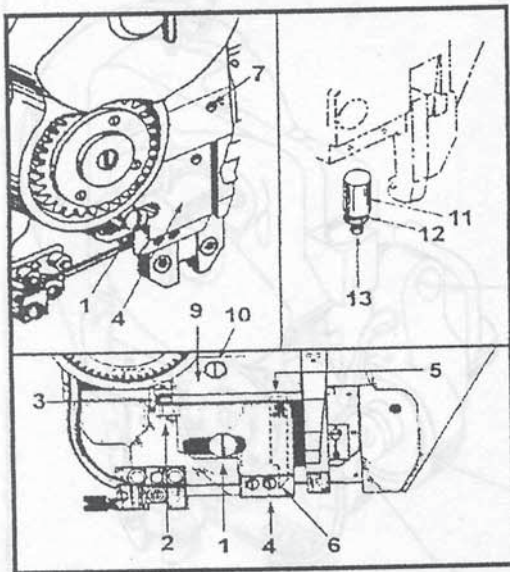

Figure 8-Staple Left Leg and Movable Cutter Adjustment
4. How to Adjust the Staple's Left Leg Length (See Figure 8)
1. If head being operated is the standard wire draw type loosen (do not remove) the adjusting screw lock screw (2). To lengthen the left leg turn cutter block adjusting screw (3) clockwise (moving the cutter block away from the gripper). To shorten the left leg turn the cutter block adjusting screw (3) counterclockwise (moving the cutter block toward gripper). After the adjustment has been made securely tighten the adjusting screw lock screw (2).
2. If the head being operated is the long wire draw type loosen (do not remove) the cutter block holding screw (1). To lengthen the left leg manually move the cutter block (4) to the left (away from the gripper). To shorten the left leg manually move the cutter block to the right (toward gripper). After the adjustment has been made securely tighten the cutter block holding screw (1).
5. How to Set the Movable Cutter (See Figure 8)